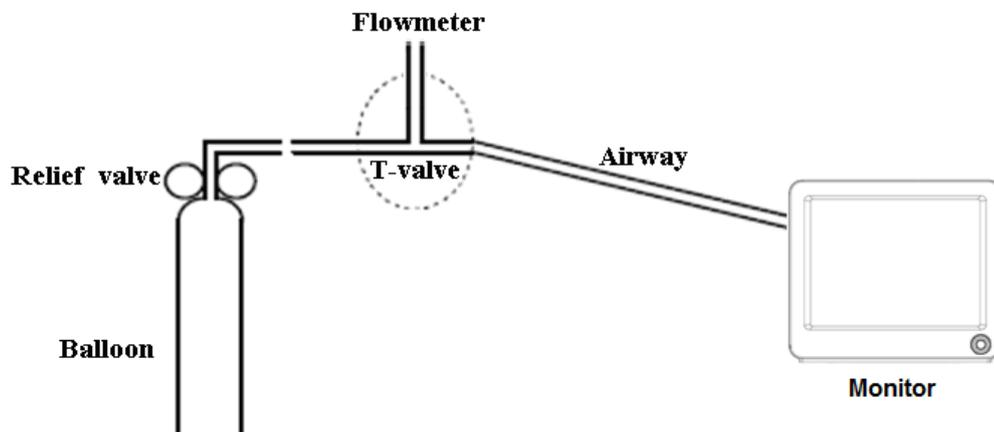

Figure 6.32 Calibration Diagram
5. Connect as shown in Figure 6.32 when zero calibration is successful.